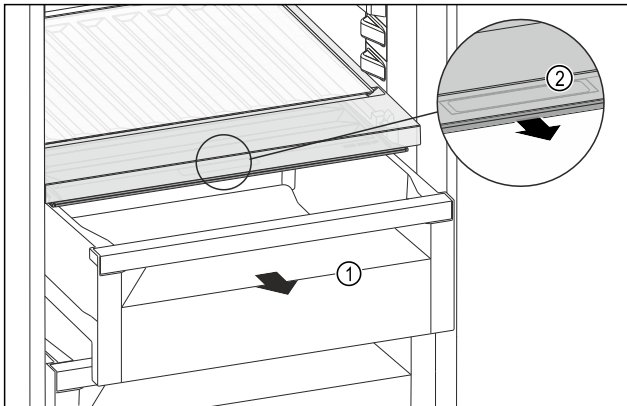

Fig. 219
- ▶ Pull out the drawer Fig. 219 (1).
- ▶ Grasp the recessed grip Fig. 219 (2) on the compartment lid and pull the compartment lid forwards at the same time.